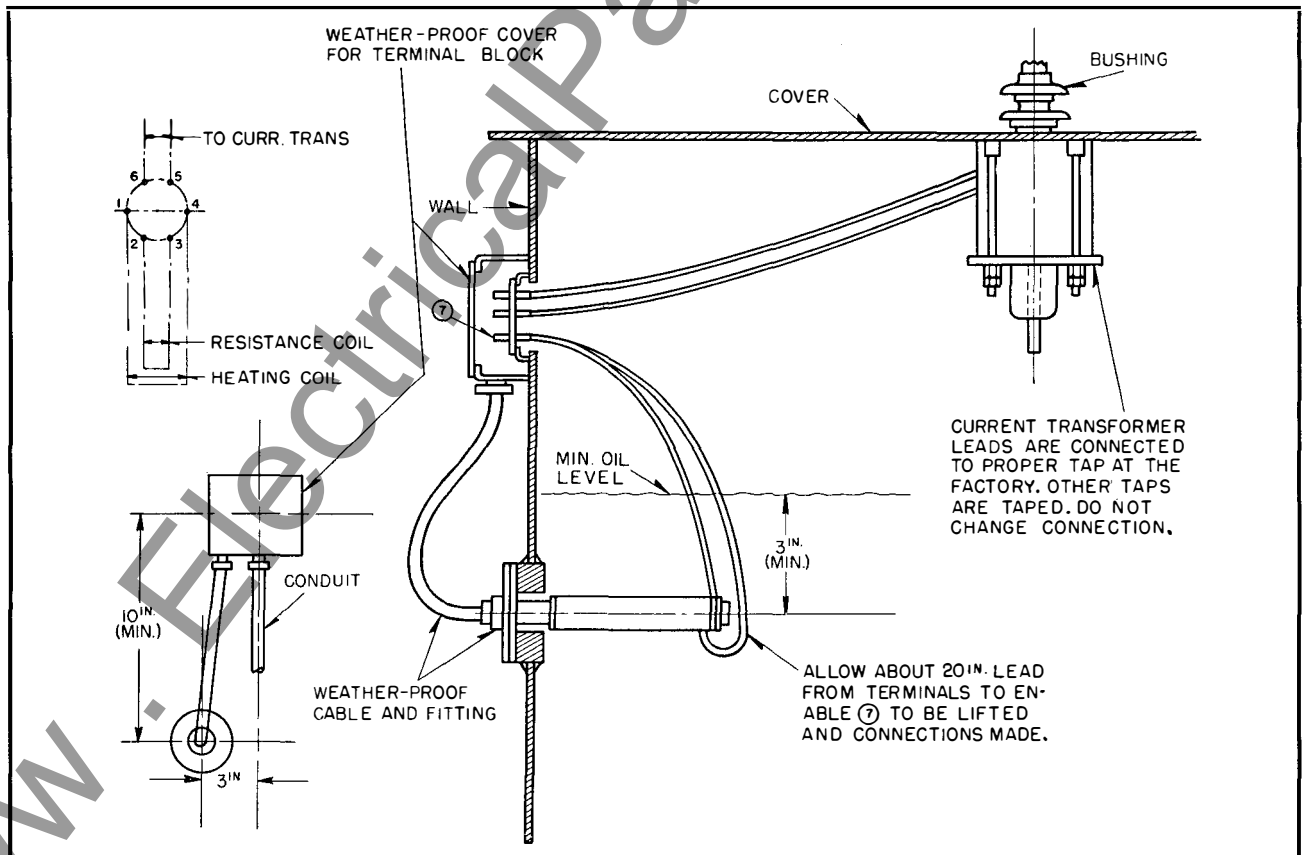

FIG. 5. Typical Installation with Bushing Current Transformer.
2. Connect the two leads from the heating coil to the two studs marked 1 and 4 on the terminal block (on the inside of the transformer). See Fig. 5.